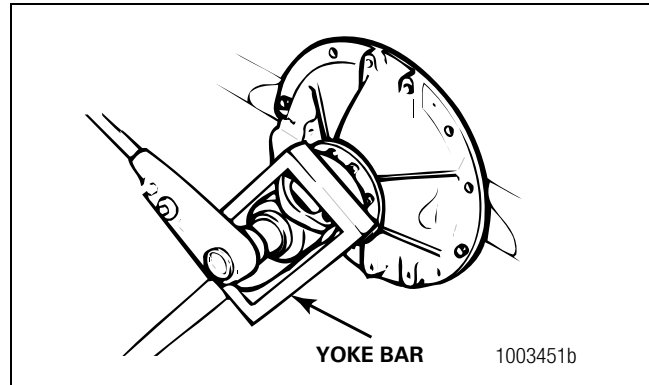

Figure 2
5. Attach a flange bar or place a yoke bar over the input or output yoke to hold the yoke or flange while you remove the nut. Always use a flange or yoke bar during removal and installation of the flange yoke nut to prevent damage to the gearing. Figure 2.